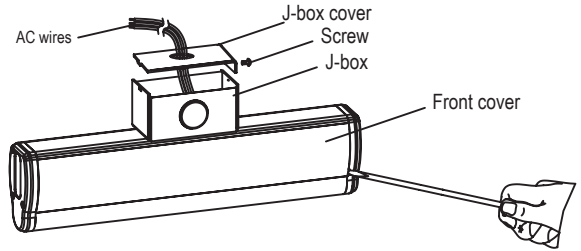

Fig. 2
2. Unscrew and remove one end cap (test switch side). Disconnect test switch and LED indicator connector, remove test switch and LED indicator and LED bushing and set aside for next step. Reattach end cap on housing using (3) PB3*12 screws (supplied). (Fig. 2)